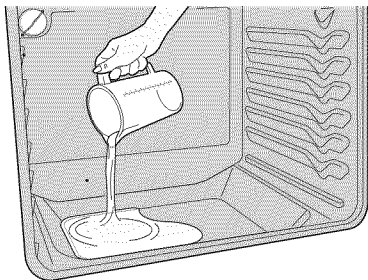

Figure 39: Pour water onto the oven bottom
3. Pour 8 oz (235 ml) of distilled or filtered water onto the oven bottom (See Figure 39). Close the oven door.